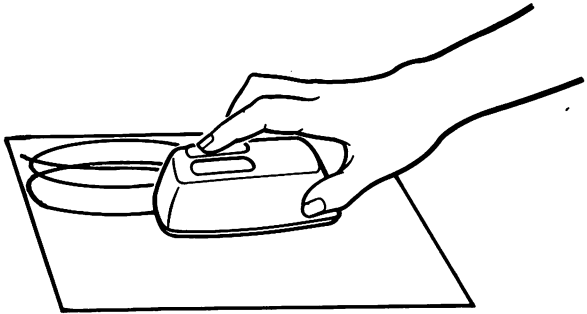

Figure 5-12. Press the buttons as you move the mouse.
4. Practice moving the mouse across the card as you press the two buttons on the mouse. (See Fig. 5-12.) You will find that the left button highlights the cursor's position and the right button enters commands, much like the RETURN key on your keyboard.